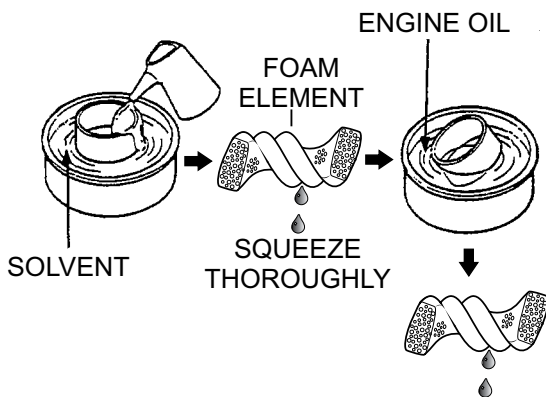

Figure 33. Cleaning Foam Element
3. Clean foam element (Figure 33) in warm, soapy water or non-flammable solvent. Rinse and dry thoroughly.